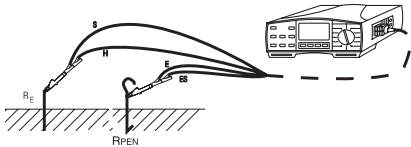

Figure 22: Connection of Test Leads
- ▶ Connect the test leads to UUT in accordance with Figure 22. If desired, this connection information can directly be retrieved on the measurement instrument using the key 'HELP'. Repeated pressing of the key 'HELP' indicates the various connection possibilities.